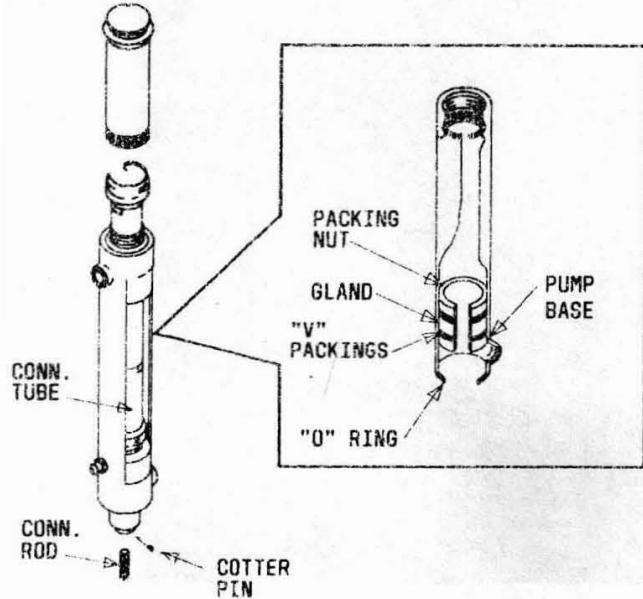

Fig. 7—REN Pump—Cutaway View
4.09 Should the leather packings on the pump become worn, order the G 810-8 pump replacement packing kit, and install the packings in the following manner: (See Fig. 7.)